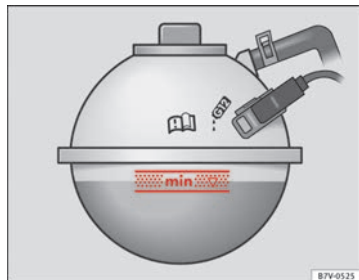

Fig. 174 In the engine compartment: Marking on coolant expansion tank
- When the engine is cold, check the coolant level using the side marking on the expansion tank ⇒ Fig. 174.
- The engine coolant level should be between the marks on the coolant expansion tank ⇒ Fig. 174. **Do not exceed the top level of the marked area** ⇒ .
- Only top up coolant to the top level of the marked area ⇒ Fig. 174. Otherwise the excess coolant will be forced out of the cooling system when the engine is hot, causing damage.